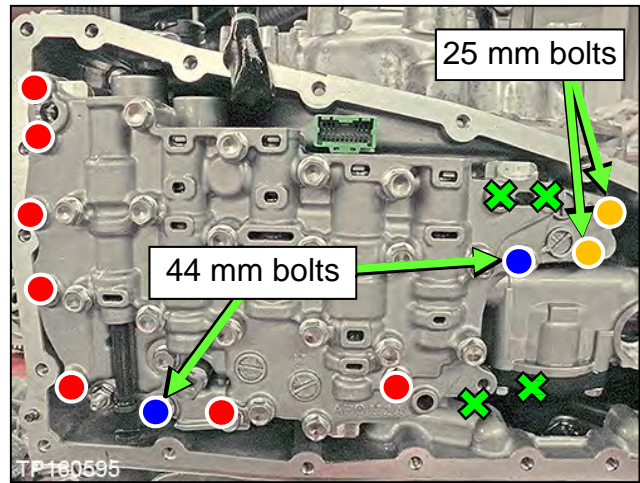

Figure 152
116. Install the Control Valve with eleven (11) mounting bolts (Figure 152).